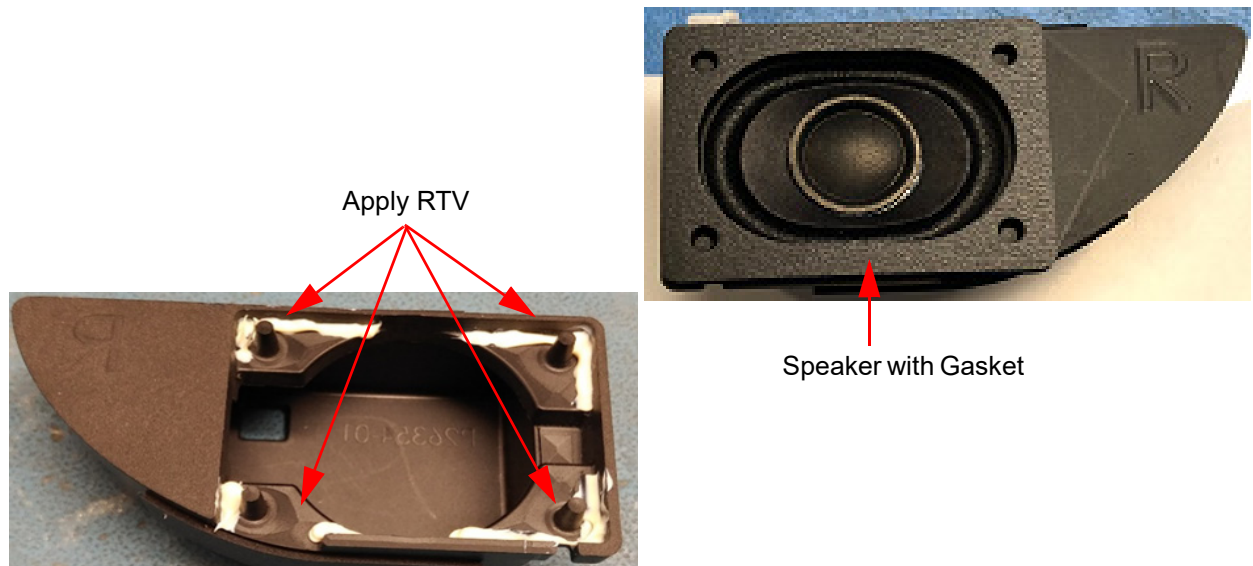

Figure 6.14 Speaker Installation
- 1 Apply a small amount of RTV664 onto Speaker Housing per Figure 6.14 on page 57
- 4 Remove adhesive backing from Speaker Gasket and apply per Figure 6.14 on page 57